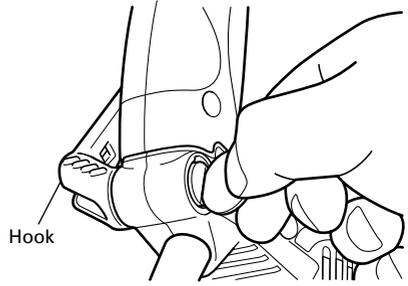

Fig. 13
- (a) Securely hold the main unit and remove the screw using a slotted head screwdriver or a coin (Fig. 13).